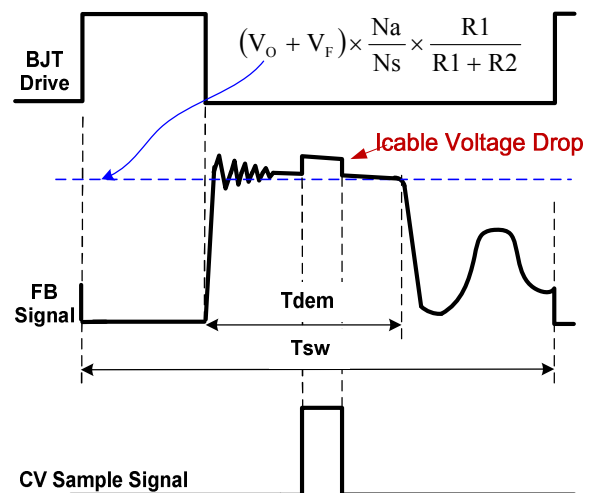

Fig.2
transformer energy to the secondary. Fig.2 illustrates the CV sampling signal timing waveform in DP25133. As shown in Fig.2, it is clear that there is a down slope representing a decreasing total rectifier  $V_f$  and its voltage drop as the secondary current decreases to zero. To achieve an accurate representation of the secondary output voltage on the auxiliary winding, the CV sampling signal blocks the leakage inductance reset and ringing. When the CV sampling process is over, the internal sample/hold (S&H) circuit captures the error signal and amplifies it through the internal Error Amplifier (EA). The output of EA is sent to the Primary Side Constant Voltage Modulator (PSR-CVM) for CV control. The internal reference voltage for EA is trimmed to 2V with high accuracy.
During the CV sampling process, an internal variable current source is flowing to FB pin for Cable Drop Compensation (CDC). Thus, there is a step at FB pin in the transformer demagnetization process, as shown in Fig.2. Fig.2 also illustrates the equation for “demagnetization plateau”, where  $V_o$  and  $V_f$  is the output voltage and diode forward voltage;  $R_1$  and  $R_2$  is the resistor divider connected from the auxiliary winding to FB Pin,  $N_s$  and  $N_a$  are secondary winding and auxiliary winding respectively.